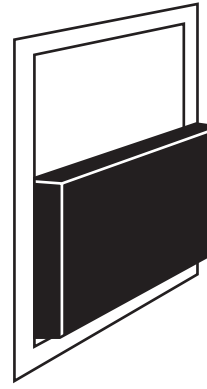

Fig. 48 - Example of Setup Switch in Off Position
4. Use Fig. 47 or wiring schematic to determine proper setup position of A/C switches. (See Fig. 48 and Fig. 49.)
4. Use Fig. 47 or wiring schematic to determine proper setup position of CF switches. (See Fig. 48 and Fig. 49.)
3. See Table 9 for setup switch description. (See Fig. 48 and Fig. 49.)
Using the schematic diagram (See Fig. 48), follow the sequence of operation through the different modes. Read and follow the wiring diagram very carefully. !!